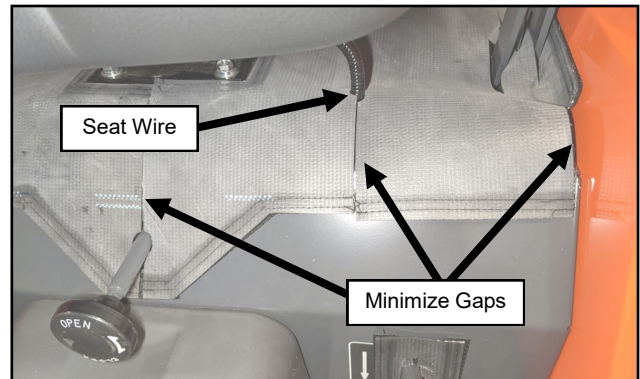

Fig. 19.8a (Secure Front of Filler)
- 19.8** Position and secure the front of the filler. See Figures 19.8a and b. Be sure to minimize gaps.